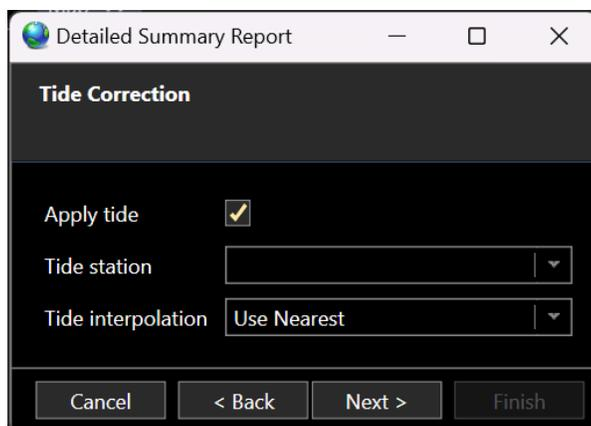

FIGURE 126 EXPORT – TIDE CORRECTION PAGE
2. Click Next, this opens the Tide Correction page. The user can optionally apply tide to elevations in the export. Here, a tide station and interpolation method can be selected, see Figure 126.